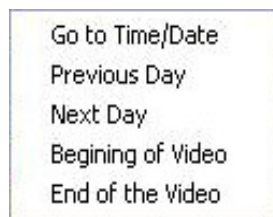

Figure 5-2 Bottom Panel with Video List
3. Select the Video tab (17) for the Bottom Panel (18) and click the desired hour in the Video List (Figure 5-2). The video will be displayed if there is a recording at this point of time.
3. Camera's title (Figure 5-2 (4)).